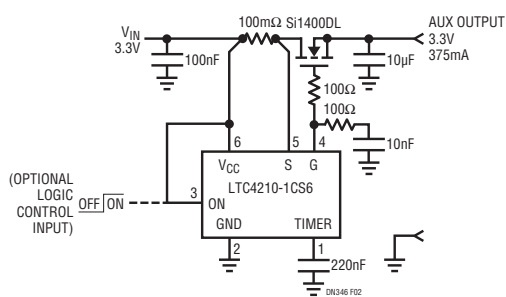

Figure 2. Optional 3.3V_{AUX} Port Power with Self-Resetting, Current-Limited Circuit Breaker Operates Autonomously or Under Logic Control
Figure 2 shows a current limited circuit breaker for the optional 3.3V_{AUX} rail, using the LTC4210 Hot Swap controller in a 6-lead ThinSOT™ package. With the ON pin (3) hard-wired to 3.3V, the LTC4210 operates autonomously, featuring a timed current limit to protect against overloads. Should the circuit breaker trip in the presence of a sustained fault, the LTC4210 automatically restarts after a time delay, requiring no intervention on the part of the PCI Express port manager.
For 3.3V_{AUX}, simply add the circuit of Figure 2 in parallel at the 3.3V output. Note that with both circuits enabled and providing power to the 3.3V output, the available current is greater than 1.5A.